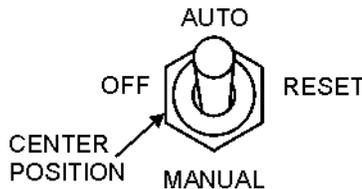

Figure 65. Off/Manual/Auto Switch (OFF)
5. Place the Off/Manual/Auto Switch (Figure 65) in the "OFF/RESET" position.